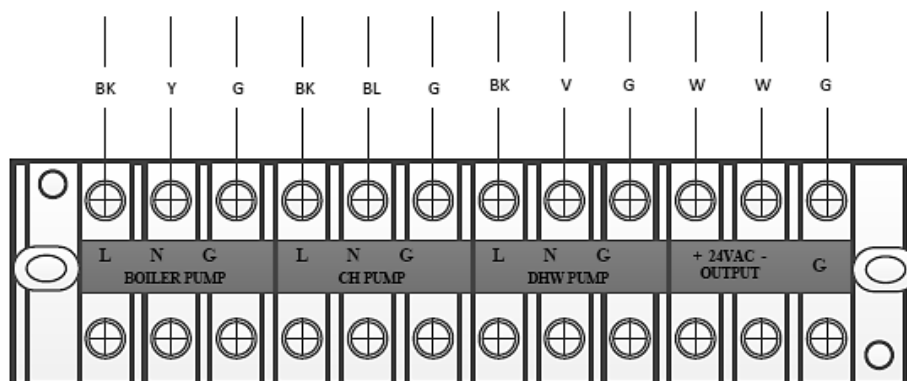

Figure 40 – Line Voltage Wiring Detail
2. Connect the system sensor to the Master low voltage terminal strip. See Figure 40. Thermostat, 0-10V, and Outdoor Sensor must be connected to the Master only.